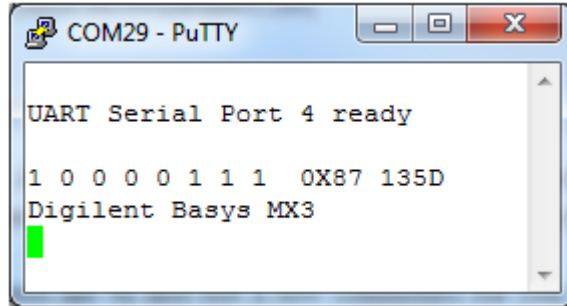

Figure A.3. PuTTY screen shot generating LCD display.
2. Toggle the slide switches to verify that the terminal screen displays text similar to Figure A.3.